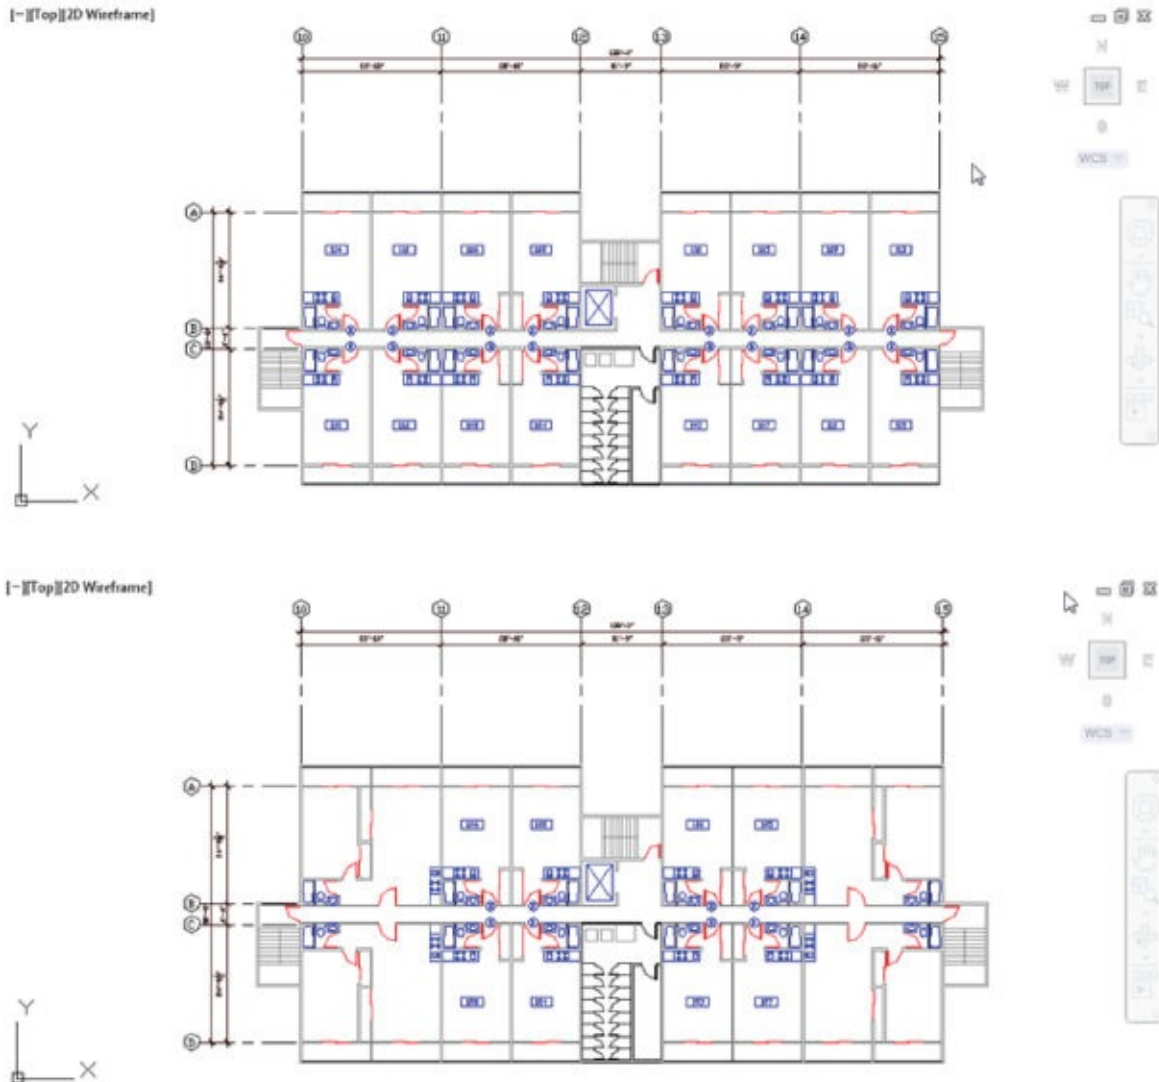

FIGURE 14.10 The xref-1.dwg and xref-2.dwg files with the units updated
- Open the `xref-1.dwg` file, right-click `Common` in the External References palette, and select `Reload` from the context menu. You can also right-click the `Manage Xrefs` icon in the lower-right corner of the AutoCAD window and select `Reload DWG Xrefs`. You see the utility room and the typical units in their new form. Your drawing should look like the top image in Figure 14.10.
1. Open xref-2.dwg. You see that the utility room and typical units are updated in this file as well. (See the bottom image in Figure 14.10.)